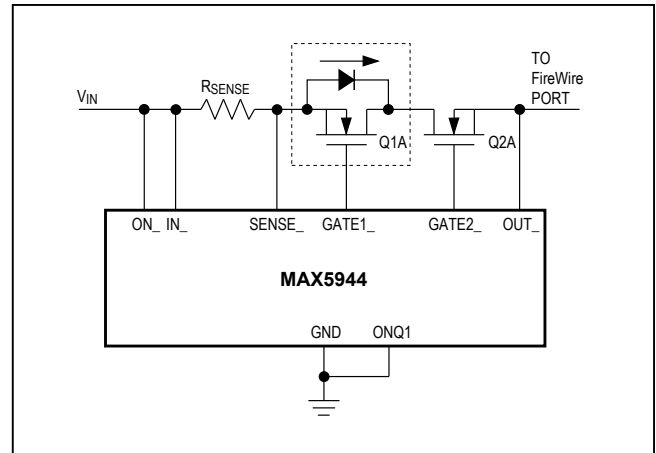

Figure 3. Q1 Current Path During Initial Startup
GATE1\_ controls the MAX5944 ORing function. The MAX5944 accomplishes a very low voltage-drop diode ORing function using n-channel power MOSFETs. Initially, GATE1\_ is off (ONQ1 = low) and the load current conducts through the body diode of Q1\_, Figure 3. GATE1\_ rises to 5.5V above SENSE\_ when VIS exceeds the 5mV VOR threshold, enhancing Q1\_. Q1\_'s low RDS(ON) provides a very low voltage drop across its source to drain, which results in less power dissipation and heat generation in the power-supply path than a traditional diode.